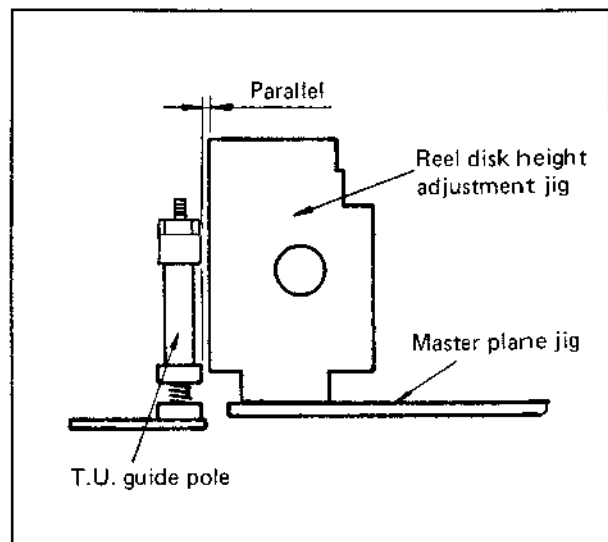

Fig. 4-19
1. Use the reel disk height adjustment jig to check the take-up guide pole as shown in Fig. 4-19. The pole should be parallel with the jig.